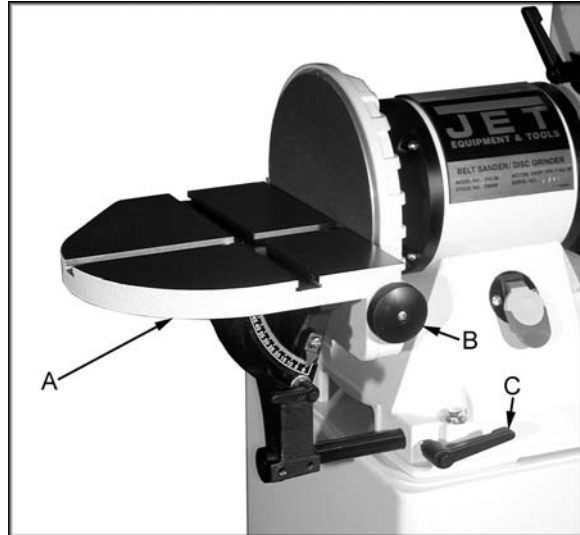

Figure 14
2. Loosen the handle (C, Fig. 14) and remove the table assembly (A, Fig. 14).
3. Turn the knob (B, Fig. 14) and swing open the cover.